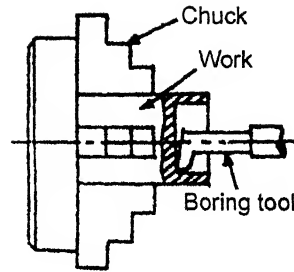

Fig. 10.21. Boring.
#### 8. Boring. Refer to Fig. 10.21.
- In this operation, as shown in Fig. 10.21, a *boring tool or a bit* mounted on a rigid bar is held in the tool post and fed into the work by hand or power in the similar way as for turning.